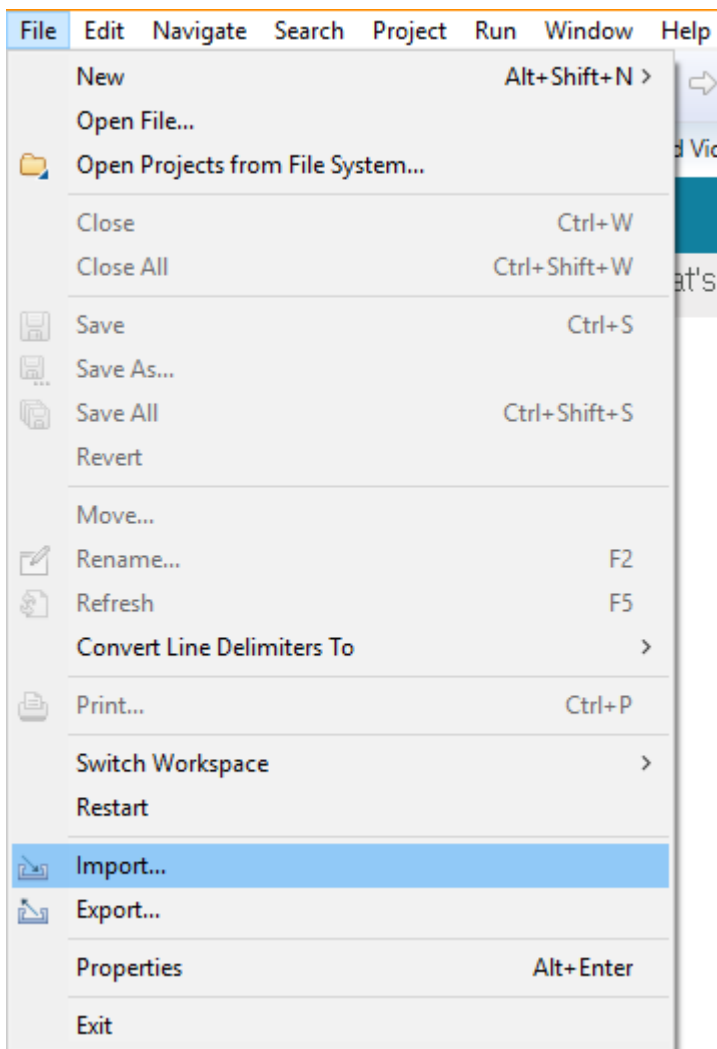

Figure 3 Importing an existing configuration database
2. **Click File > Import...** as shown in Figure 3 Importing an existing configuration database